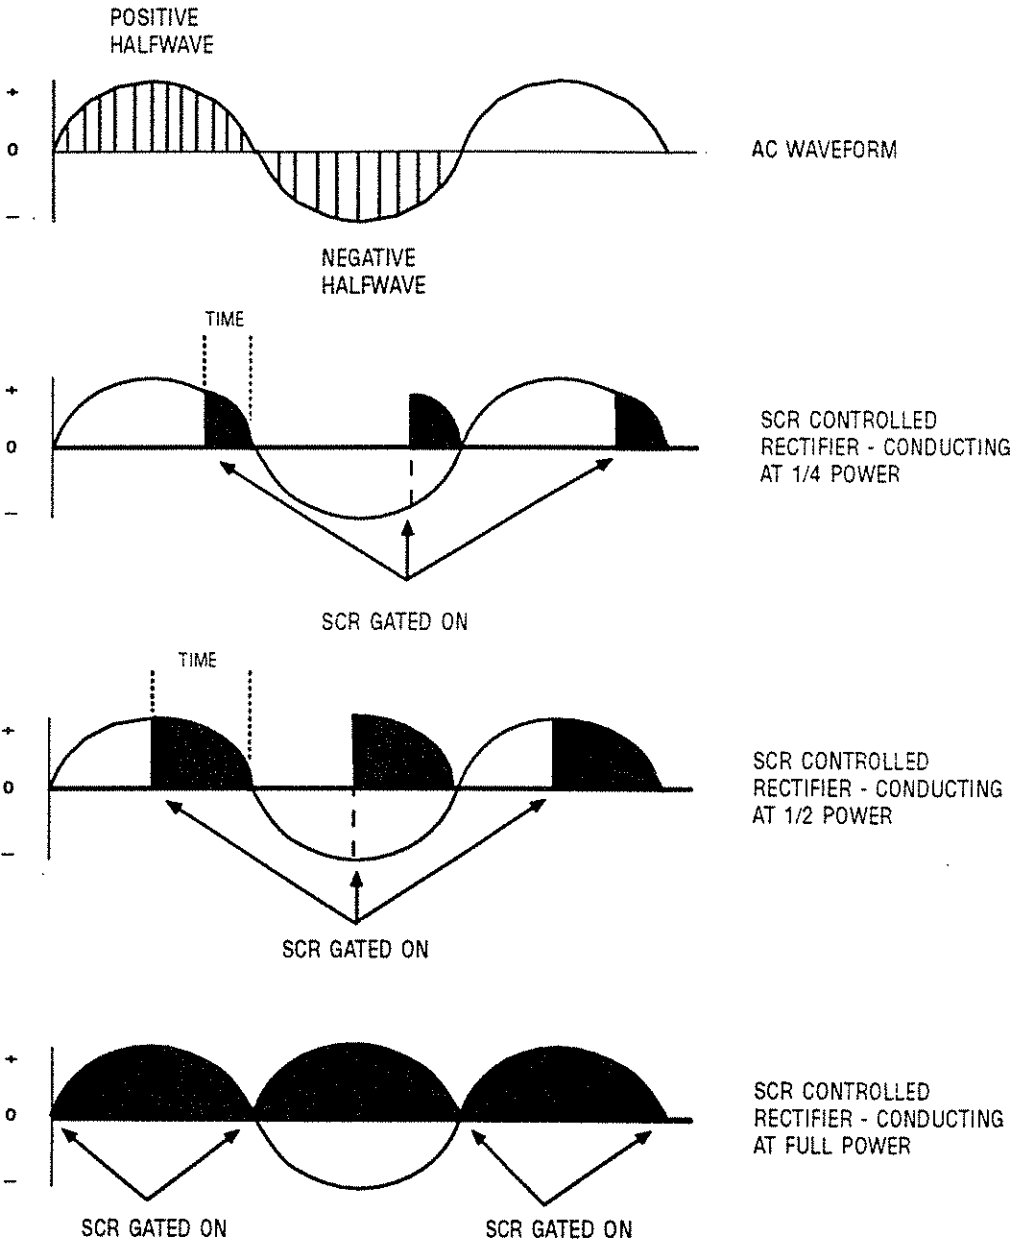

Figure 2-5: SCR Controlled Waveforms
- b. The microprocessor determines when to apply gating current to G1 to achieve the desired DC voltage strength. See Figure 2-5.
- e. The AC signal reverses polarity. This causes diodes SCR1 and D2 to become reverse biased and the microprocessor to remove gating current from G1 (disabling SCR1). Current conduction ceases. See Figure 2-5.
- b. The microprocessor determines when to apply gating current to G2 to achieve the desired DC voltage strength. See Figure 2-5.
- e. The AC signal reverses polarity. This causes diodes SCR2 and D1 to become reverse biased and the microprocessor to remove gating current from G2 (disabling SCR2). Current conduction ceases. See Figure 2-5.